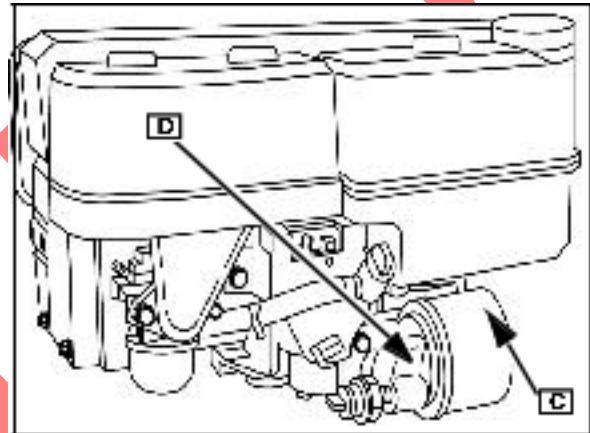

Fig. 3
Remove oil filter ([C] Fig. 3), if equipped.
- Clean surface of filter mounting adaptor ([D] Fig. 3).